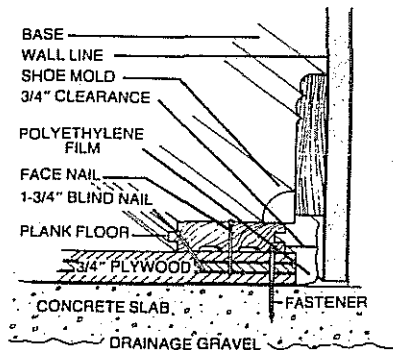

Fig. 1
CONCRETE - One successful method of installing 3/4" Continuous Strip® on concrete that is on/above grade, is to provide a Plywood/OSB nailing surface over 4 mil polyethylene film. Your poly-film should be laid loosely over the entire floor with edges lapped 4" and lapped 4" up your wall (Fig. 1). Next, lay down 3/4" x 4' x 8' sheets of exterior grade plywood/OSB with 1/4" gaps between sheets and with your end joints staggered every 4 ft. Fasten down your subfloor with powder-actuated or hammer-driven concrete nails. Use a minimum of 18 nails per panel, starting at one end of the panel and working toward the opposite edge to be sure of flattening out the plywood and holding it securely.
5. Pre-drill and face-nail the first row of strips using a 7d flooring nail or equivalent every 8" along the groove side (Fig. 1).
7. Face nail the first row (Fig. 1) and next row of strips by hand. Pre-drill your nail holes at a 45 degree angle down through the nailing groove on top of the tongue. The next rows should blind nailed. Avoid bruising the wood by using a nail punch to drive the nails the last 1/4" into the tongue. Use 7d flooring nail or equivalent.